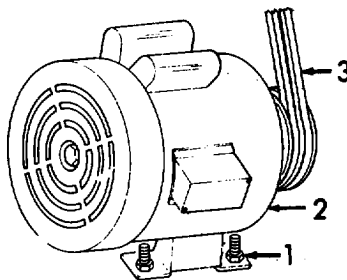

Figure 3-13. Drive Belts, Removal.
- a. *Removal.* (Refer to Figure 3-13).